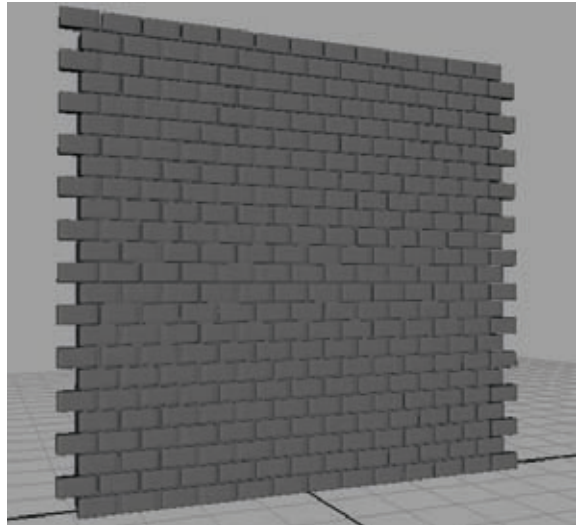

Figure 1.10
11. Press Shift+D to Duplicate With Transform. Continue until you have filled the empty wall's space as in Figure 1.10.